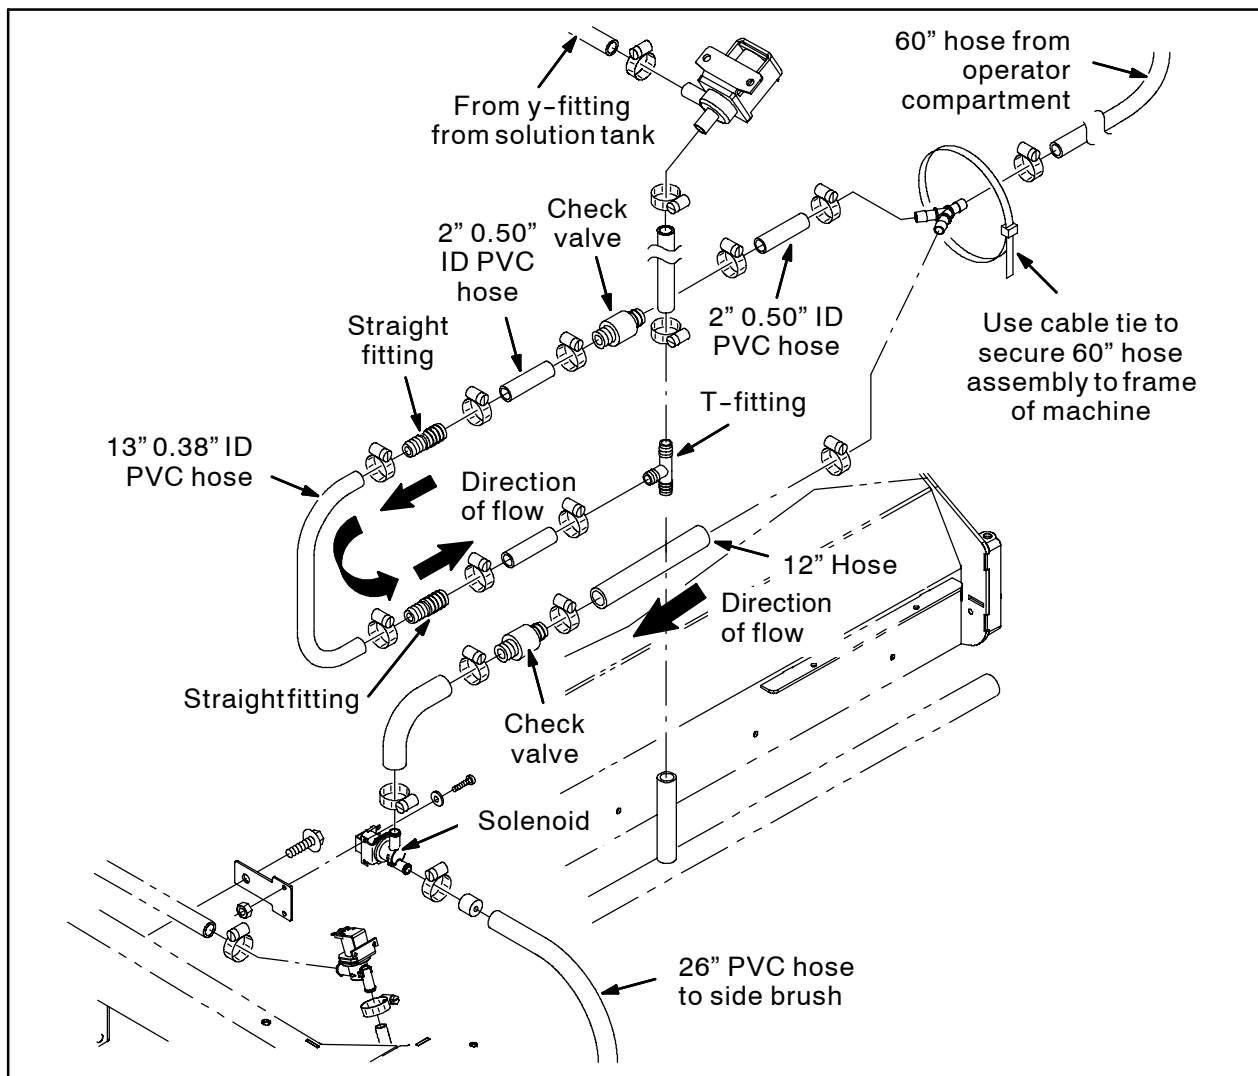

FIG. 2
- Assemble the check valve, straight fittings, and 13" hose / 2" hoses as shown in Fig. 2. Note the direction of flow.
- Cut the bent hose 12" from the longer end of the hose. Refer to Fig. 2.
- Use two hose clamps to install a check valve between the two sections of hose cut in the previous step. Note the direction of flow. Refer to Fig. 2.
- Use a hose clamp to connect the trimmed hose to the solenoid. Refer to Fig. 2.
- Use a hose clamp to connect the other end of the trimmed hose to the y-fitting connected to the 60" PVC hose from the operator compartment. Refer to Fig. 2.
- Use a hose clamp to connect a 26" PVC hose to the solenoid. Refer to Fig. 2.